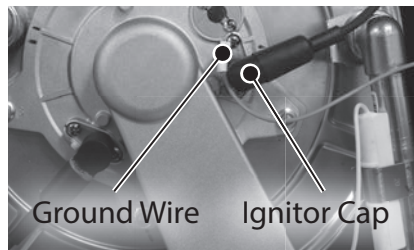

Figure 76 - Remove ignitor rod cap
- 5 Locate the ignitor rod on the burner assembly as shown in Figure 76. Remove the cap from the ignitor rod. **DO NOT** pull on wires.
- 6 Disconnect the green ground wire at the ignitor rod as shown in Figure 76. Route the wire inside the water heater cabinet for ease of access to ignitor rod.
- 7 Use a Phillips screwdriver to remove the two (2) screws securing ignitor rod to the burner assembly. Place screws aside in a safe place for reinstallation.